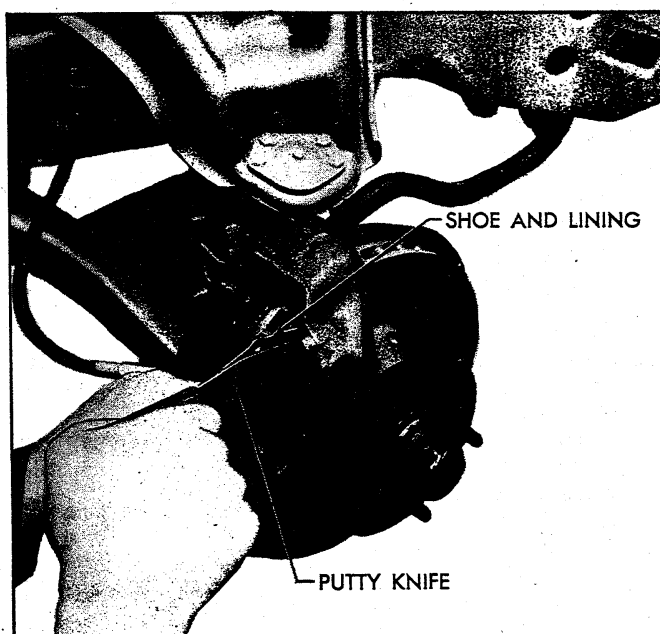

Fig. 38—Replacing Shoe and Lining Assembly
6. Insert new shoe with lining into position. Use a putty knife to push each piston back as the shoe is inserted as shown in Figure 38.